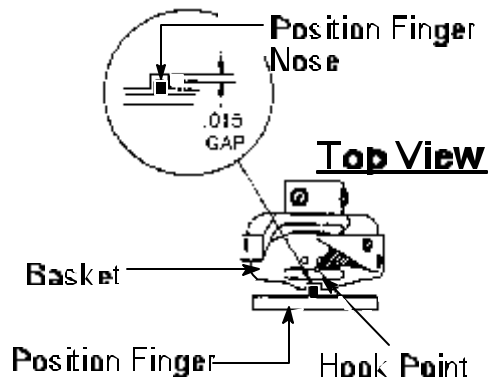

Figure 6
84. **Move** Position Finger **left or right**, centering Position Finger Nose with needle. See *Figure 6*.